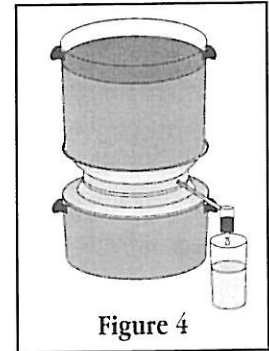

Figure 4
7. Place a glass or heat-resistant container under the post filter to collect the distilled water. See figure 4.